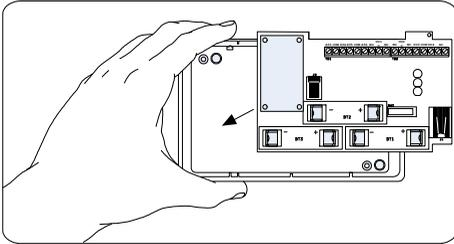
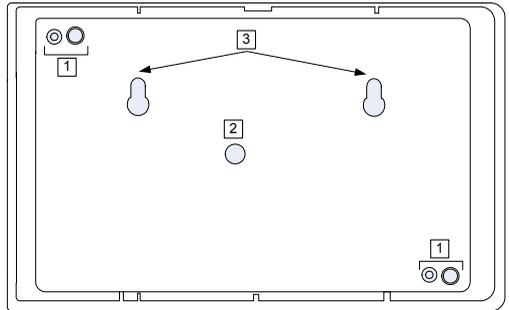

Figure 3: Circuit Board Removal
Figure 4: Knockouts and Installation Holes
2. Remove the circuit board (Figure 3) and open knockouts for the entry of the power wires (1, Figure 4) and for the back tamper (2, Figure 4).
3. Mount the receiver on the wall using the installation holes (3, Figure 4) and reinstall the circuit board. Make sure that that you hear a "click" when attaching the tamper spring to the wall.